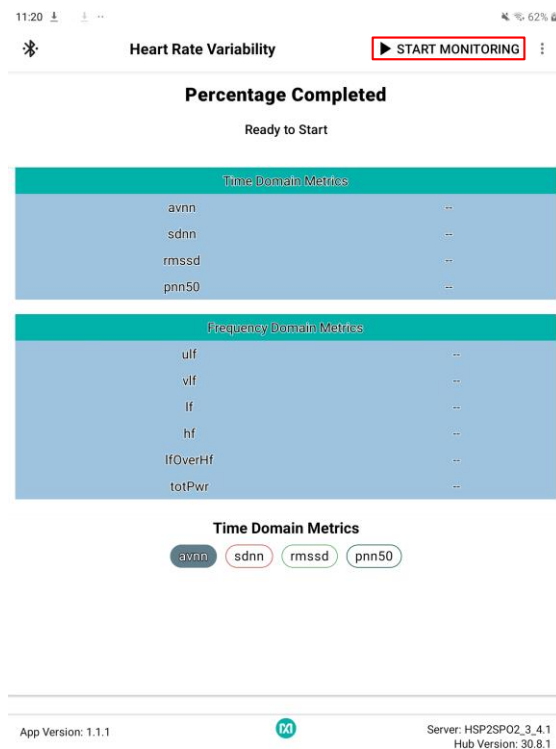

Figure 47. Start heart-rate variability measurement.
1. Click the back button of the Android device to go back to the main menu. Click **Heart Rate Variability**. The individual graphing of the avnn, sdnn, rmssd, or pnn5 data can be selected by selecting the button of interest and deselecting the other three. For instance, avnn is selected in Figure 47 and the other measurements are deselected. Click the play icon to start the heart-rate variability monitoring.